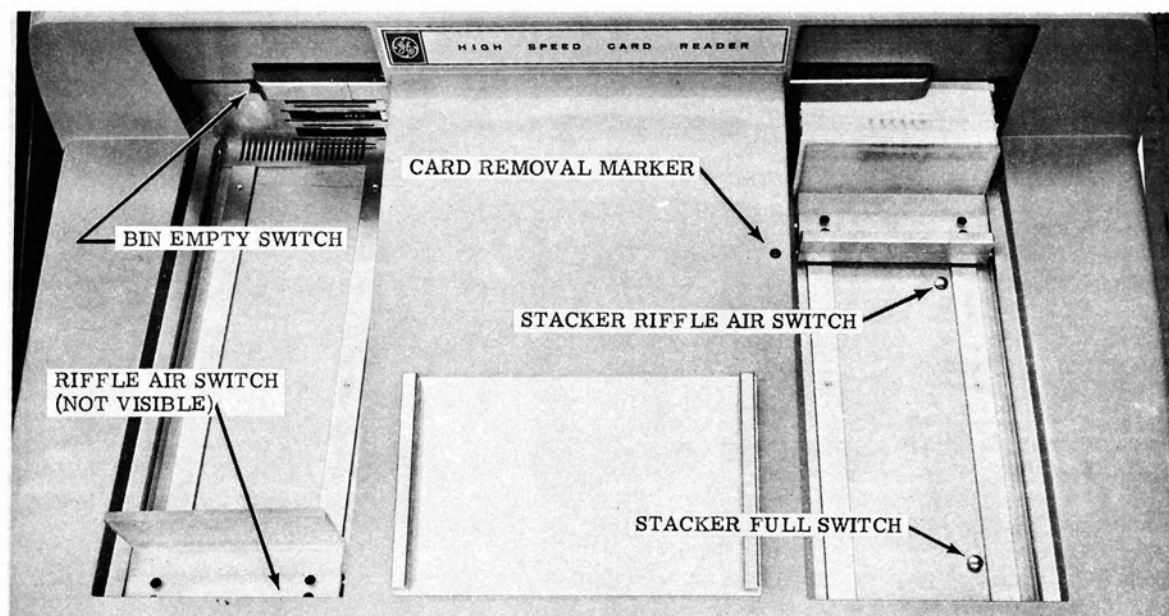

Figure VII-4. Top View of the Card Reader
Holding a switch down could cause an error. See Table VI for a summary of the functions of controls and indicators. Figure VII-4 is a view of the top of the card reader.
- c. ruffle air housing, thereby raising the bin-empty switch (Figure VII-4).
on the inside edge of the stacker (labeled the 'card removal mark' in Figure VII-4). The button indicates where cards must be to activate the stacker riffle air switch. The increased riffle air turned on by the switch is needed to prevent feed errors.